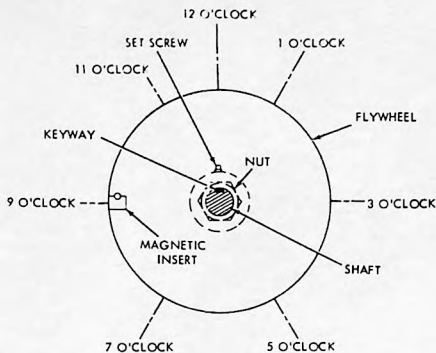

FIGURE 2.
- 3.2.1 Combine attract time of magnets and delay time of control circuits to obtain time (T) in milliseconds (MS) at which armatures are fully attracted after pickup fires when set at range 30.
- .2 Locate T on time scale at lower left of Figure 2. Extend a line horizontally to right until it intersects line representing operating speed of Punch Unit in operations per second (OPS).
- (A) Assume that Punch Unit is to operate at speed of 110 ops that attract time of magnets is 2 ms and delay of control circuits is 1 ms. Combined time (T) is thus 3 ms.
- (B) Locate 3 on time scale in Figure 2. Extend a line from 3 to right until it intersects 110 ops line.
- (C) Extend a line vertically upward from this point. As can be seen in Figure 2, line intersects 9 o'clock line.
- (D) When a line is extended to left from this point, it intersects scale at 339°. Thus toggle linkages are in selection interval when magnets reach fully attracted position.
- (E) Position flywheel at 9 o'clock as instructed under positioning flywheel above.